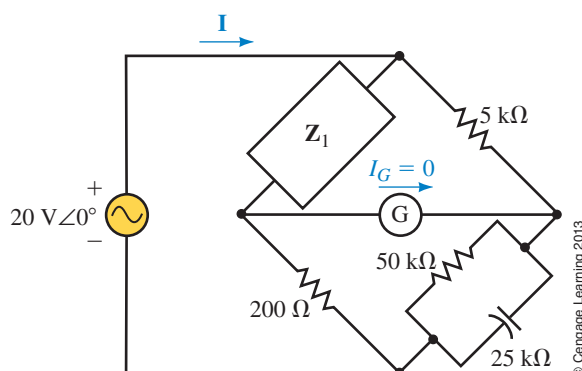

FIGURE 19-72
30. Given that the bridge circuit of Figure 19-72 is balanced: